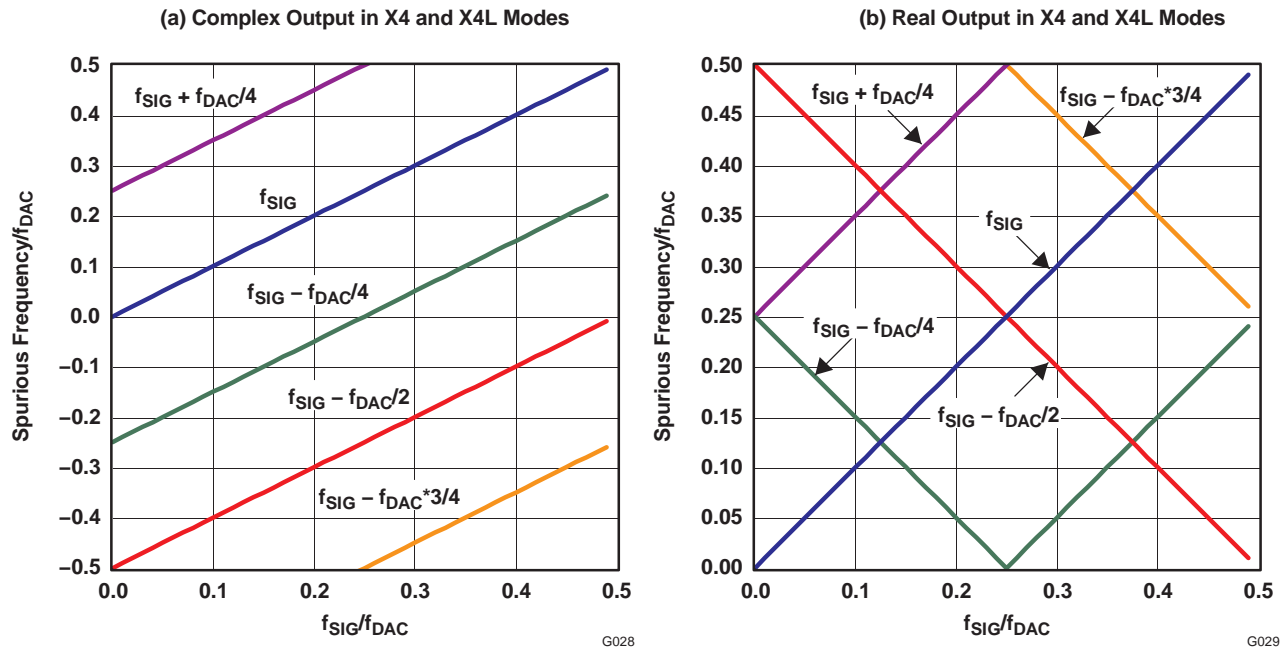
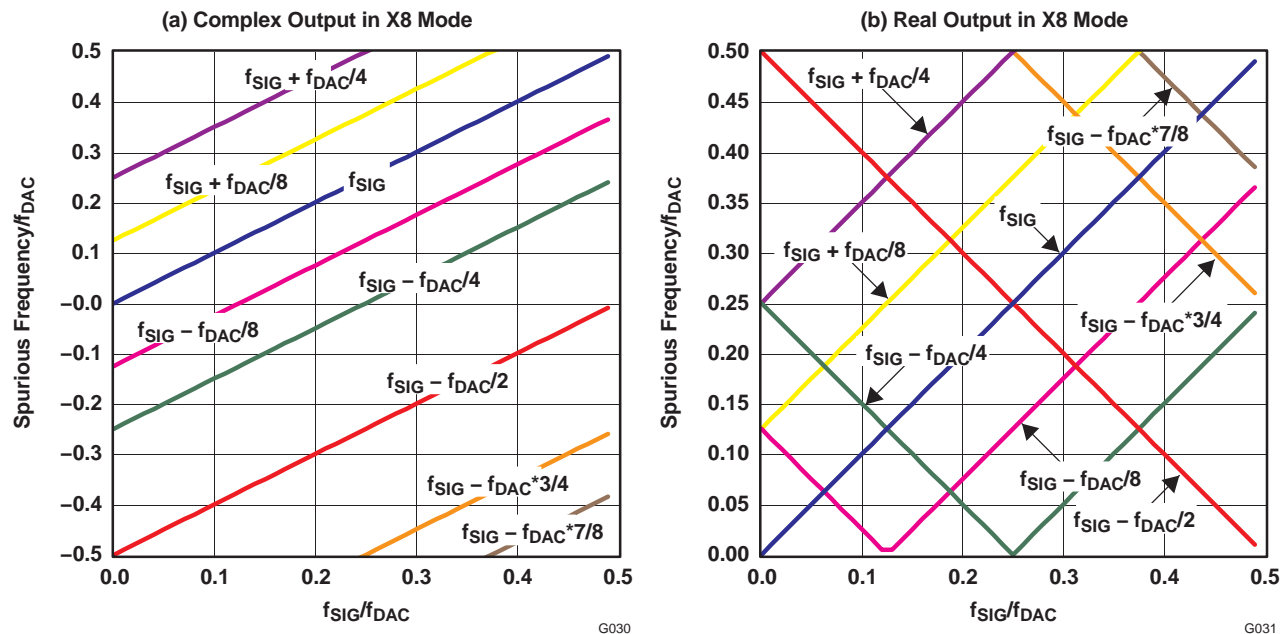
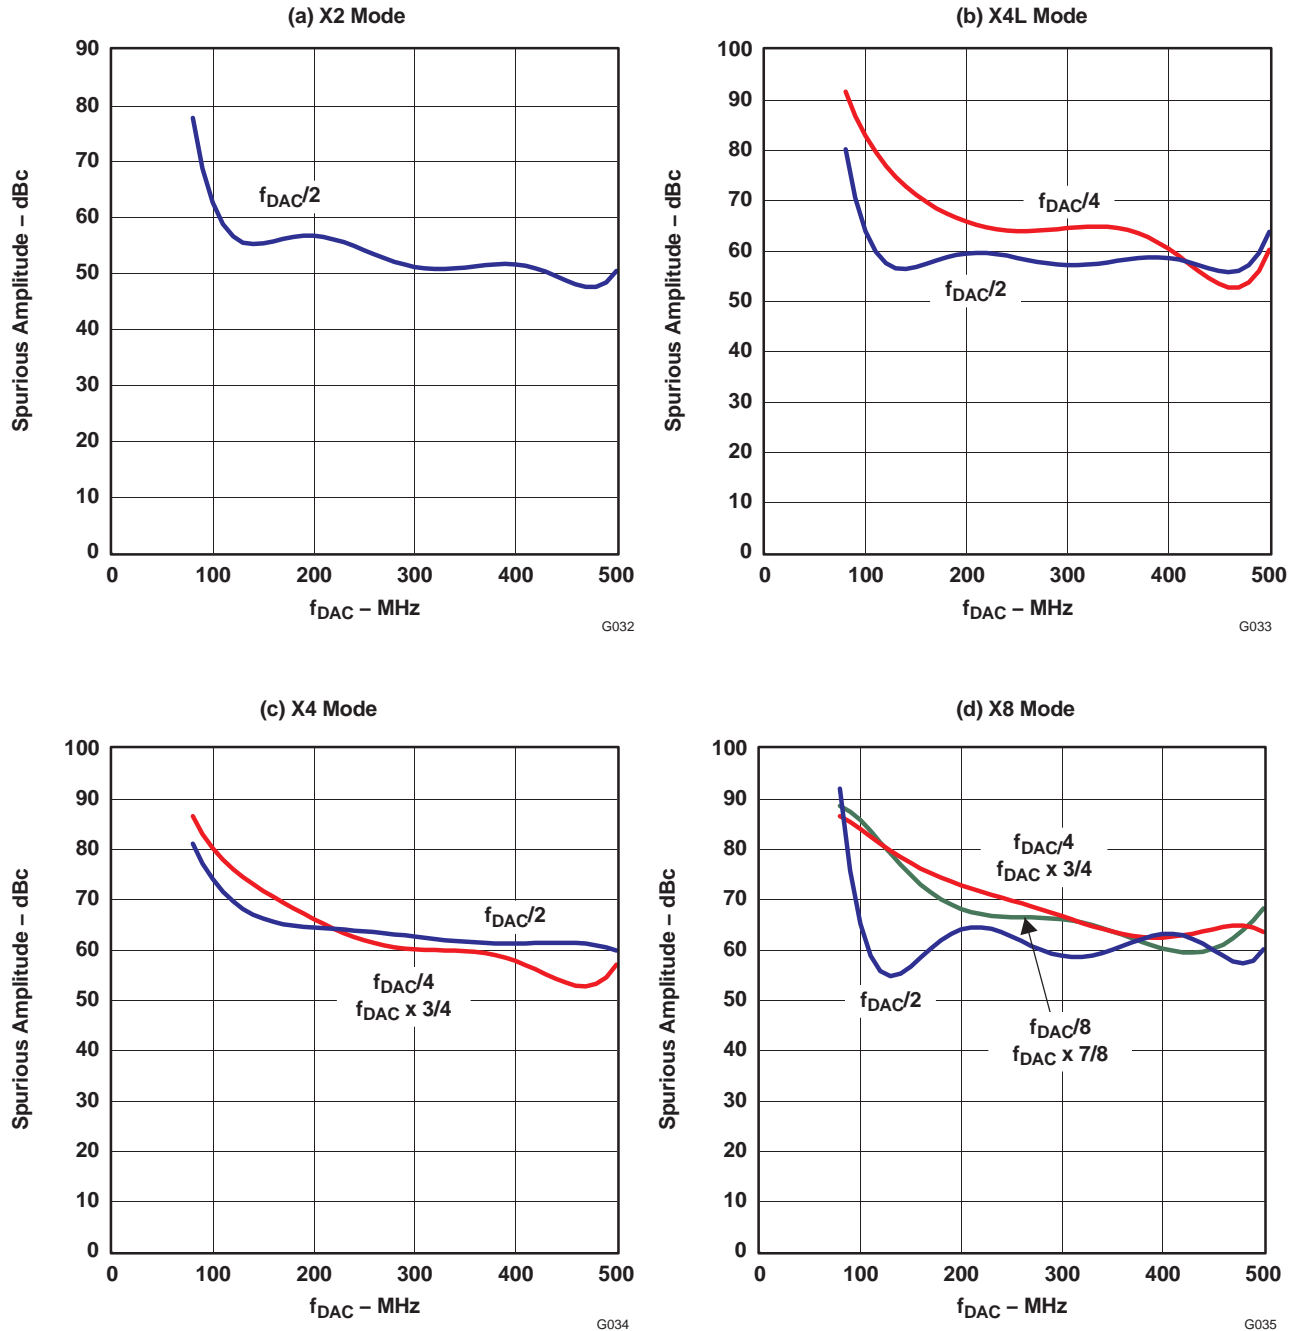

Figure 71. Frequency of Clock Mixing Spurious Images in X4 and X4L Modes
Figure 72. Frequency of Clock Mixing Spurious Images in X8 Mode
Figure 73. Clock-Related Spurious Signal Amplitude With PLL Off for  $f_{SIG} = 11 \times f_{DAC} / 32$
Figure 71 shows the location of spurious signals for X4 and X4L mode as a function of  $f_{SIG}/f_{DAC}$ . The addition of the  $f_{DAC}/4$  clock frequency for the first interpolation filter creates three new spurious signals. For a complex output, the nearest spurious signals are  $f_{DAC}/4$  offset from  $f_{SIG}$ . For a real output, the signal due to  $f_{SIG} - f_{DAC}/4$  and  $f_{SIG} - f_{DAC} \times 3/4$  falls in band as  $f_{SIG}$  approaches  $f_{DAC}/8$  and  $f_{DAC} \times 3/8$ . This creates optimum real output frequencies  $f_{SIG} = f_{DAC} \times N/16$  ( $N = 1, 3, 5,$  and  $7$ ), where the minimum spurious product offset from  $f_{SIG}$  is  $f_{DAC}/8$ .
Figure 72 shows the location of spurious signals for X8 mode as a function of  $f_{SIG}/f_{DAC}$ . The addition of the  $f_{DAC}/8$  clock frequency for the first interpolation filter creates four new spurious signals. For a complex output, the nearest spurious signals are  $f_{DAC}/8$  offset from  $f_{SIG}$ . For a real output, the optimum real output frequencies  $f_{SIG} = f_{DAC} \times N/16$  ( $N = 3$  and  $5$ ), where the minimum spurious product offset from  $f_{SIG}$  is  $f_{DAC}/8$ .
Figure 73 and Figure 74 show the typical worst-case spurious signal amplitudes vs  $f_{DAC}$  for a signal frequency  $f_{SIG} = 11 \times f_{DAC}/32$  in each mode for PLL on (PLL clock mode) and PLL off (external and dual-clock modes). Each spurious signal ( $f_{DAC}/2$ ,  $f_{DAC}/4$  and  $f_{DAC}/8$ ) has its own curve. The spurious signal amplitudes can then be adjusted for the exact signal frequency  $f_{SIG}$  by applying the amplitude adjustment factor shown in Figure 75. The amplitude adjustment factor is the same for each spurious signal ( $f_{DAC}/2$ ,  $f_{DAC}/4$ , and  $f_{DAC}/8$ ) and is normalized for  $f_{SIG} = 11 \times f_{DAC}/32$ .
1. Find the spurious signal frequencies for the appropriate mode from Figure 70, Figure 71, or Figure 72.
2. Find the amplitude for each spurious frequency for the appropriate mode from Figure 73 or Figure 74.
First, the location of the spurious signals is found for the X4 complex output in Figure 71\(a\). Three spurious signals are present in the range  $-0.5 \times f_{\text{DAC}}$  to  $0.5 \times f_{\text{DAC}}$ : two from  $f_{\text{DAC}}/4$  (35 MHz and  $-215$  MHz) and one from  $f_{\text{DAC}}/2$  ( $-90$  MHz). Consulting Figure 73\(c\), the raw amplitudes for  $f_{\text{DAC}}/2$  and  $f_{\text{DAC}}/4$  are 60 and 58 dBc, respectively. From Figure 75, the amplitude adjustment factor for  $f_{\text{SIG}} = 0.32 \times f_{\text{DAC}}$  is estimated at  $\sim 1$  dB, and so the  $f_{\text{DAC}}/2$  and  $f_{\text{DAC}}/4$  are adjusted to 61 and 59 dBc.